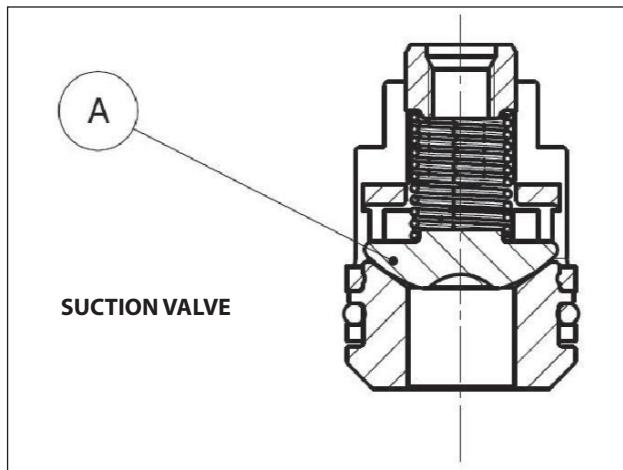
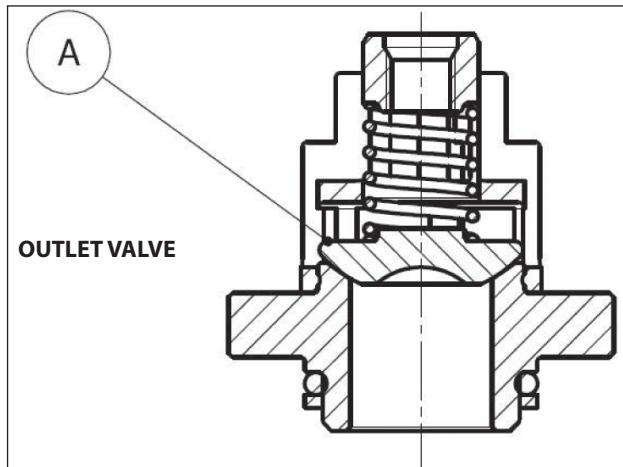

Fig. 26
Fig. 27
- 2. On the HF18 – WK355 version, moreover, take care not to reverse the suction ball valves with the outlet valve "A" (Fig. 26, Fig. 27), exploded view pos. 46 as indicated in chapter 16 of the *Use and maintenance manual*.**